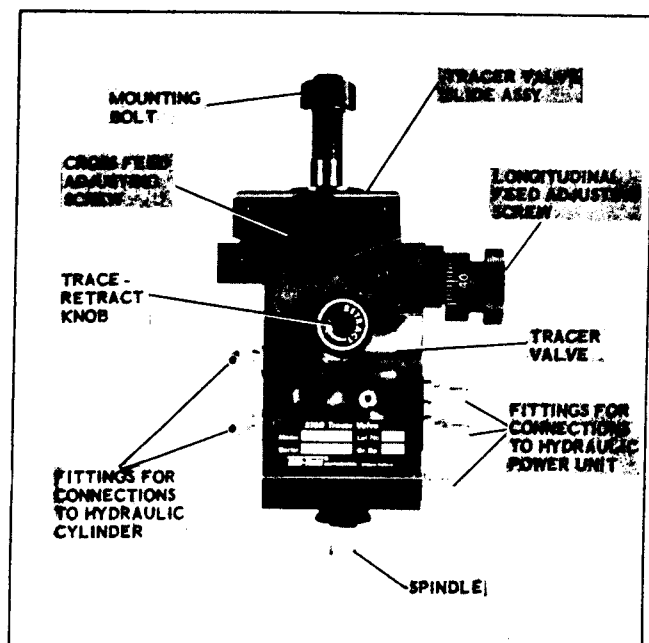

Figure 1-8. Typical 1066 Tracer Valve with 4049 Valve Slide Assembly. (Used with Mark IIA thru VI Series)
c. The swivel arm assembly dovetails onto the cylinder assembly at one end and is attached to the valve slide assembly (fig. 1-8) on the opposite end. The valve slide assembly is a precision two-way micrometer adjustable slideway. The tracer valve dovetails into the lower slide of the valve slide